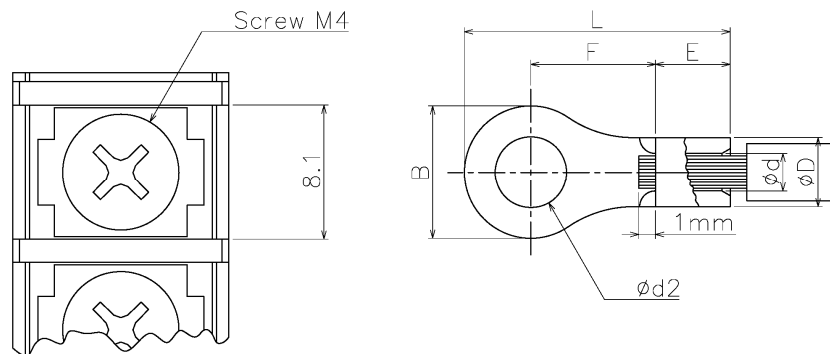

Figure 2.6b Terminal lug example (non-insulated ring terminal : JIS C 2805)
- The width of the connection facilities for a terminal lug is 8.1mm and the fastener for a terminal lug is M4 screw, therefore the dimensions should be B < 8.1mm and d2 > 4mm in case of ring terminal as Figure 2.6b
- Stripping length depends on the terminal lug type and shape. Please follow the instructions for each terminal lug. Figure 2.6b shows an example in case of non-insulated ring terminal (JIS C 2805)